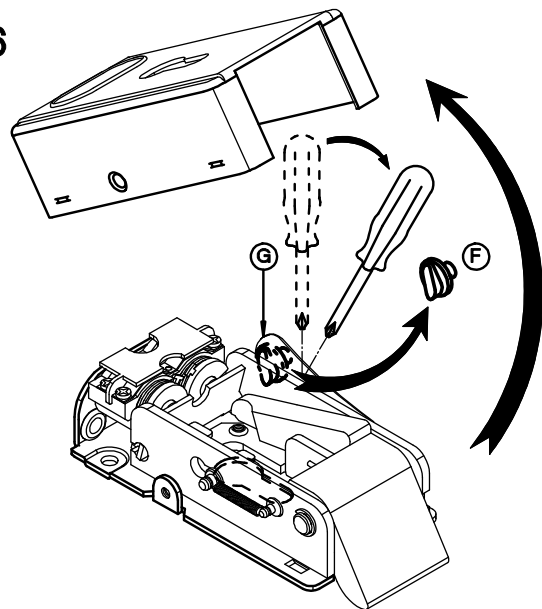

Fig.4
**GB** **TO ADJUST THE BACKSET OF THE LOCK (ONLY FOR LOCK V9083 WITH ROUND CYLINDER - SEE FIGURE 4)**
**D** **EINTRITT REGELUNG (NUR FÜR ELEKTROSCHLOSS V9083 MIT RUNDZYLINDER - SEHEN SIE FIGURE 4)**
**F** **POUR REGLER LA DISTANCE D'ENTREE (SEULEMENT POUR SERRURE V9083 AVEC CYLINDRE ROND - VOIR FIGURE 4)**
**(GB) HOW TO CHANGE OPENING FUNCTION (ONLY FOR LOCKS V06 AND V9083 - SEE FIGURE 4)**
**(D) ÖFFNUNG ÄNDERUNG (NUR FÜR ELEKTROSCHLÖSSER V06 ET V9083 - SEHEN SIE FIGURE 4)**
**(F) MODIFIER LA FONCTION D'OUVERTURE (SEULEMENT POUR LES SERRURES V06 ET V9083 - VOIR FIGURE 4)**